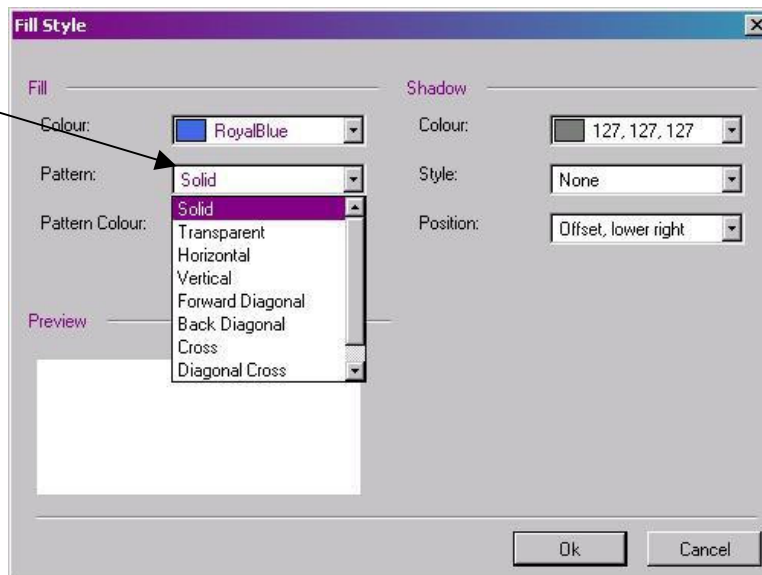

Figure 4.2.5.5: Select the type of pattern
5. Select the pattern fill colour (see Figure 4.2.5.6).